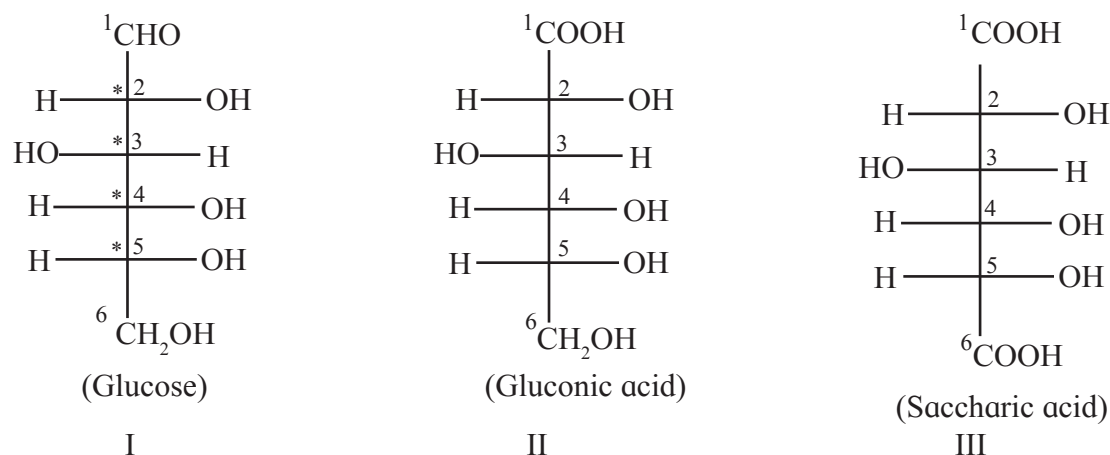

Fig 14.2 : Fischer projection formulae of glucose, gluconic acid and saccharic acid
Figure 14.2 shows the Fischer projection formulae of glucose (I), gluconic acid (II) and saccharic acid (III).
14.2.6 Ring structure of glucose : On the basis of chemical evidence stereostructure of D-glucose was represented by the Fischer projection formula I (Fig. 14.2 and Fig. 14.4). Glucose, however, was found to exhibit some more chemical properties which could not be explained on the basis of the structure I. It was necessary to write another structure for glucose which will explain all the properties. Ring structure of glucose fulfils this requirement.